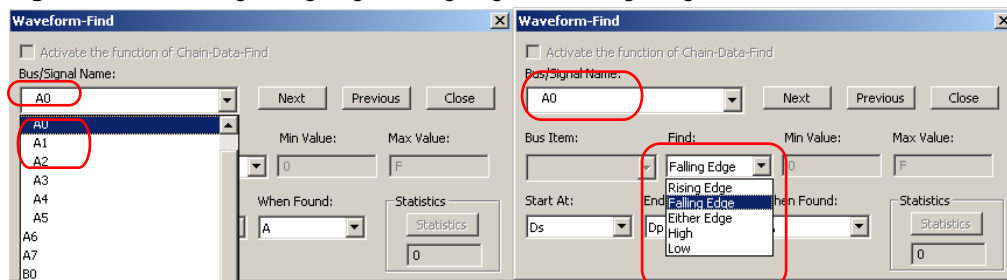

Fig 3-119: Waveform-Find Dialog Box of the Logic Signal
Step3. Choose the character for Find. The list of characters depends on whether it is a Bus, Signal, or the protocol analyzer such as I2C, UART, SPI, etc., which is being searched (See Figs 3-119, 3-120, 3-121, 3-122, 3-123, 3-124, 3-125, 3-126 and 3-127).